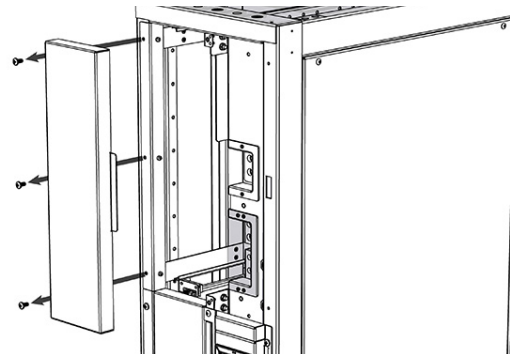

Figure 39. Panel Blanking Plate
- Step 2.** Remove the panel blanking plate by removing the three #12-24 screws from the mounting ear (see Figure 39).